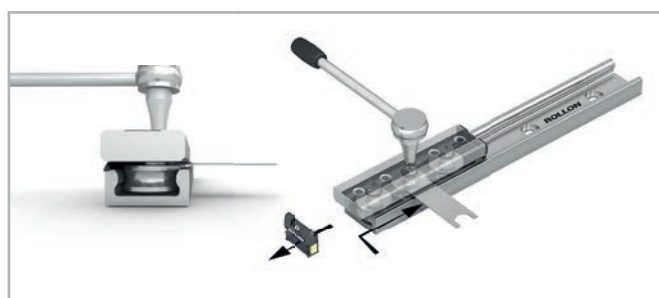

Fig. 60
- (5) Position the slider at one end of the rail to simplify insertion of the flat spanner.
- (6) Insert the flat spanner supplied to the side, between the rail and the slider. Take care to insert it from the end of the slider, sliding it under the side seal until it reaches the bearing (Fig. 60). Use the flat spanner to engage the hexagon of the eccentric bearing.
- (7) Turn the flat adjustment spanner clockwise so that the eccentric bearing contacts the raceway opposite the factory-set fixed bearings, thus reducing the slider clearance to zero. Avoid applying a high preload, which would cause high wear and reduce service life.
- (8) While holding the rolling pin in the correct position with the flat adjustment spanner, tighten the fixing screw to ensure that the pin is first locked in position.
- (9) Run the slider and check the preload over the entire length of the rail. The movement must be smooth. If any oscillation/clearance or excessive force is observed, repeat the adjustment operation. Preload is optimized when the slider runs smoothly and without play.
- (10) For sliders with more than 3 bearings, repeat this procedure for each one to be adjusted. Ensure that all bearings have uniform contact with the raceways.
- (11) While maintaining the angular position of the pin with the flat spanner, tighten the adjusted bearing fixing screw with a torque spanner. The prescribed tightening torque is shown in table 28.
- (12) Reinstall the wipers.